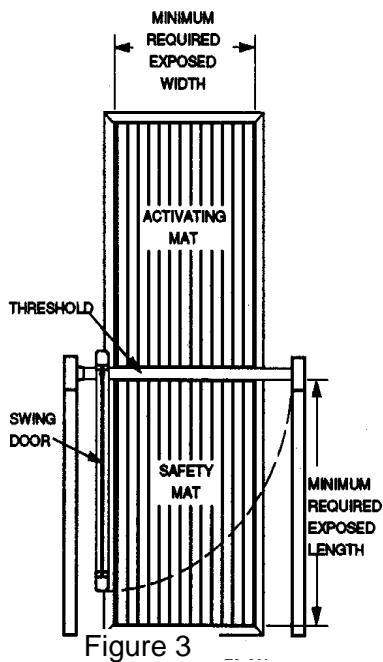

Figure 3
2. It is necessary to have a safety mat covering the entire area the door swings over. Step through the doorway onto the safety mat and remain motionless for 4 seconds. The door should remain open. Repeat at several locations on the mat. (See Figure 3 or 4)